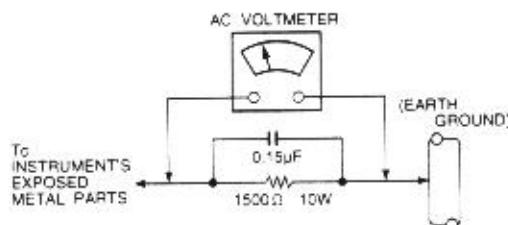

Fig.1
- 5-2 Connect a 1500 ohm, 10 watt resistor, paralleled by a 0.15μF capacitor between each exposed metallic part and a good earth ground (as shown in Fig.1).